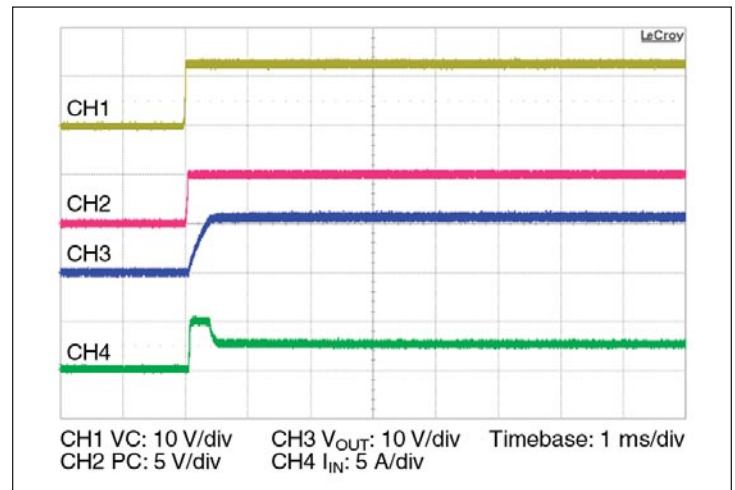

Figure 14 — Start up from application of V_C ; V_{IN} pre-applied
- Stand Alone Operation (VC applied after V_{IN}): In this case the module output will begin to rise upon the application of the VC voltage (See Figure 14). The Adaptive Soft Start circuit (See Section 10) may vary the output rate of rise in order to limit the inrush current to its maximum level. When starting into high capacitance, or a short, the output current will be limited for a maximum of 900 µsec. After this period, the adaptive soft start circuit will time out and the module may shut down. No restart will be attempted until VC is re-applied, or PC is toggled. The maximum output capacitance is limited to 500 µF in this mode of operation to ensure a successful start.